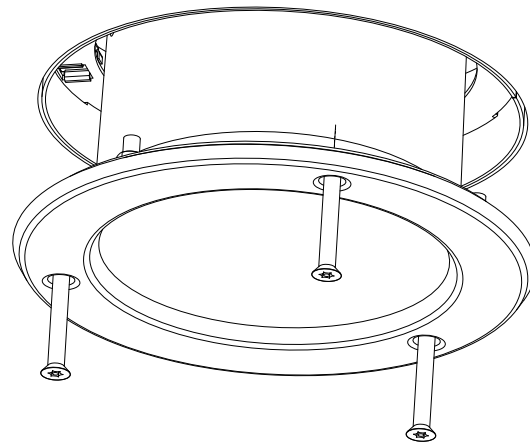

FIGURE 6
3. Position TRIM SECTION and align the (3) trim mounting screws with the cage nuts in the mounting ring (see Figure 6). Tighten to secure the trim.